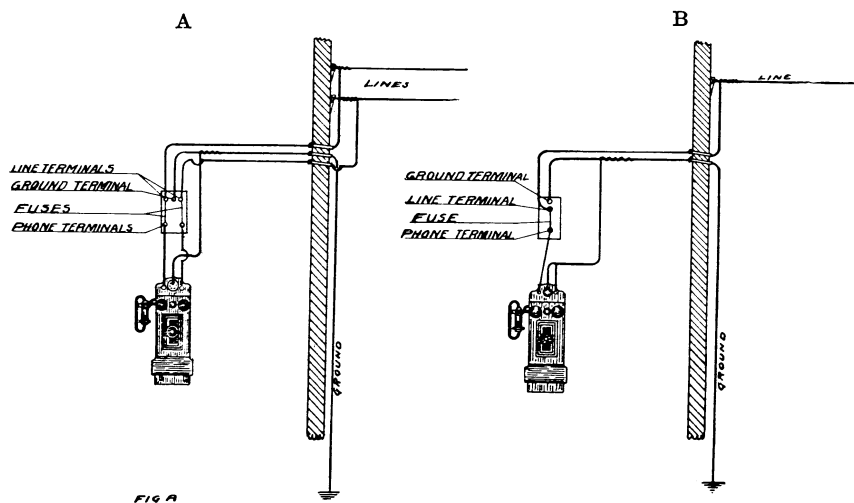

Fig. 20.
At the point where the lead-in wires pass through the holes in the building they should be protected by porcelain tubes as shown in Fig. 18 and in Fig. 20. The leading-in wires should not be left in contact with any sharp corners or edges on the outside of the building.
**INSIDE WIRING.**—No. 19 B. and S. gage braided and rubber-covered twisted pair copper wire should be used for connecting the telephone set with the protector. The methods of wiring the telephone set and protector on a grounded system and on a metallic system are shown respectively at A and B in Fig. 20.